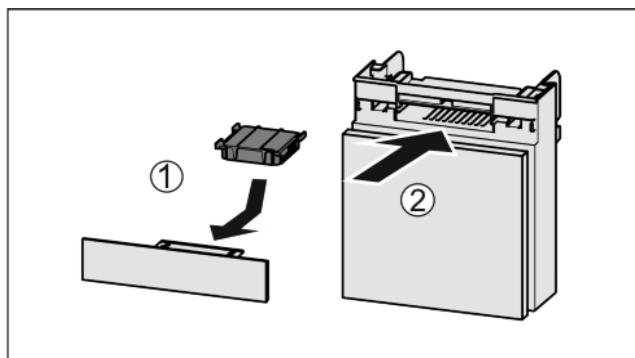

Fig. 52
- ▶ Insert the carbon filter as shown in the diagram Fig. 52 (1).
- ▶ Push the compartment in Fig. 52 (2).